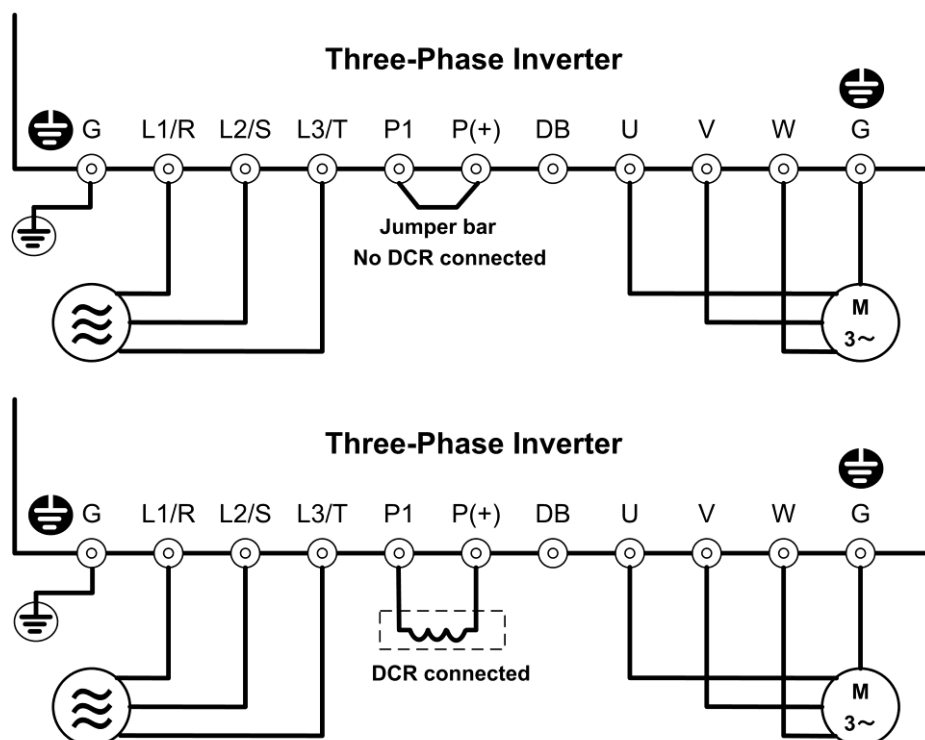

Figure 4.2-1 Connection of Main Circuit Terminals
- (1) Check that the wiring is correct.
Especially check the wiring to the inverter input terminals (L1/R, L2/S, L3/T) and output terminals (U, V, and W). Also check that the grounding wires are connected to the grounding terminals (G) correctly. See Figure 4.2-1.